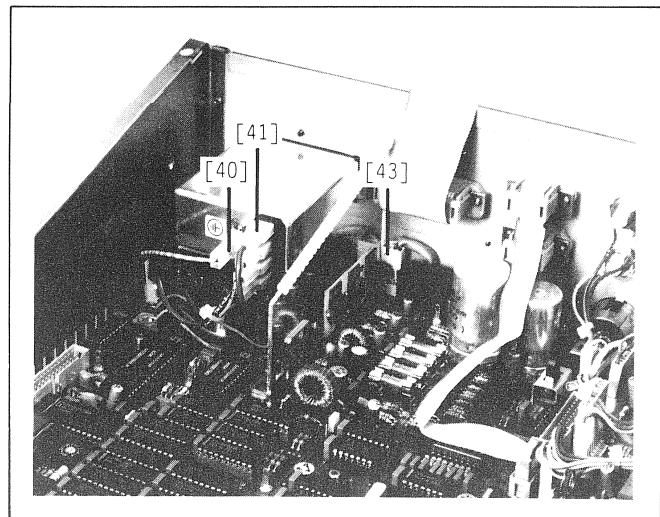

Fig. 2.15
- Remove front panel (section 2.2) -> Fig. 2.15, 2.16